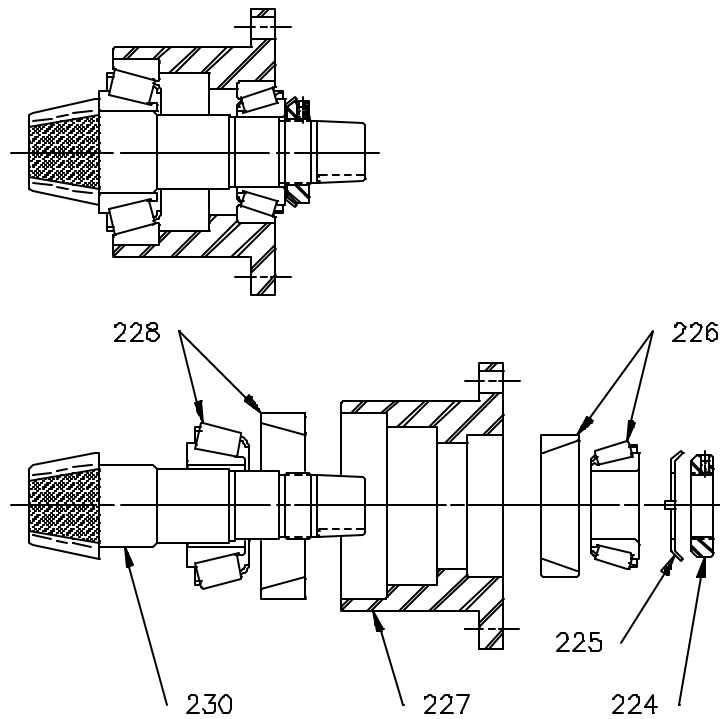

Figure 1: Spiral Bevel Pinion Cartridge Assembly [223]
7. Remove spiral bevel pinion cartridge assembly **[223]** (*Figure 1, page 4*) and shim set **[236]**. Keep the shim set intact for reference at assembly.